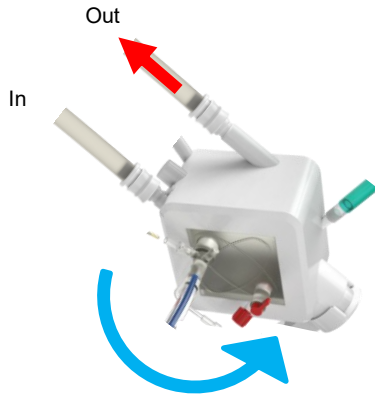

Figure 25: Tilt the oxygenator (blue arrow) so that the outlet connector (red arrow) is at the highest point, allowing water to move out from the oxygenator.
- Remove the oxygenator from the holder (Figure 8, item 37) and tilt it so the water outlet connector, identified by the air bubbles moving away from the oxygenator, is positioned above the water inlet connector (see Figure 25). This allows any trapped air to rise into the thermo tubing. Avoid kinking the thermo tubing, as this will restrict flow. Avoid straining the temperature sensor cable. If needed, temporarily remove the temperature sensor from the oxygenator to make tilting easier.